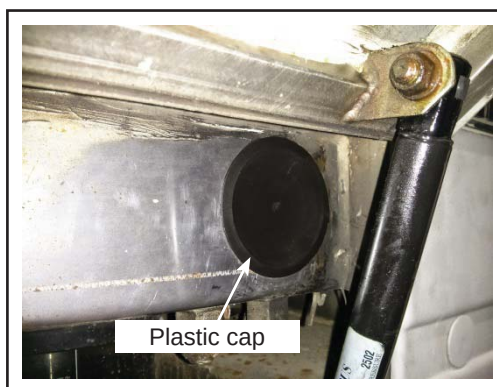

Figure 6 - N8901646 Plastic Cap Installed in the Inspection Hole
- 1.8. Install N8901646 plastic cap in the inspection hole. See Figure 6.
Repeat this inspection procedure EVERY TWO YEARS from the sixth year of the vehicle commissioning. For repeat inspections, step 1.2 above is replaced by the following instruction: Remove the plastic cap from the wall inspection hole. See Figure 6. ❖